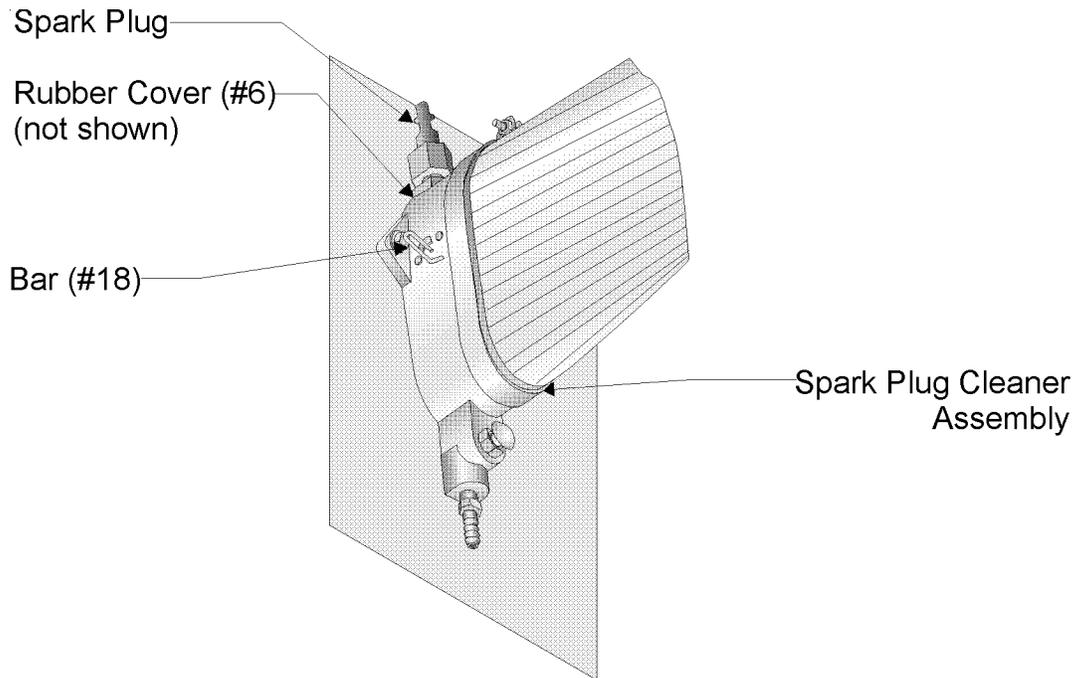

Figure 6 — Optional Bar Position
Step 5: For increased cleaning of your spark plug, switch the BAR (#18) to the position shown in Figure 6. This will swirl the air/abrasive mixture around your spark plug.